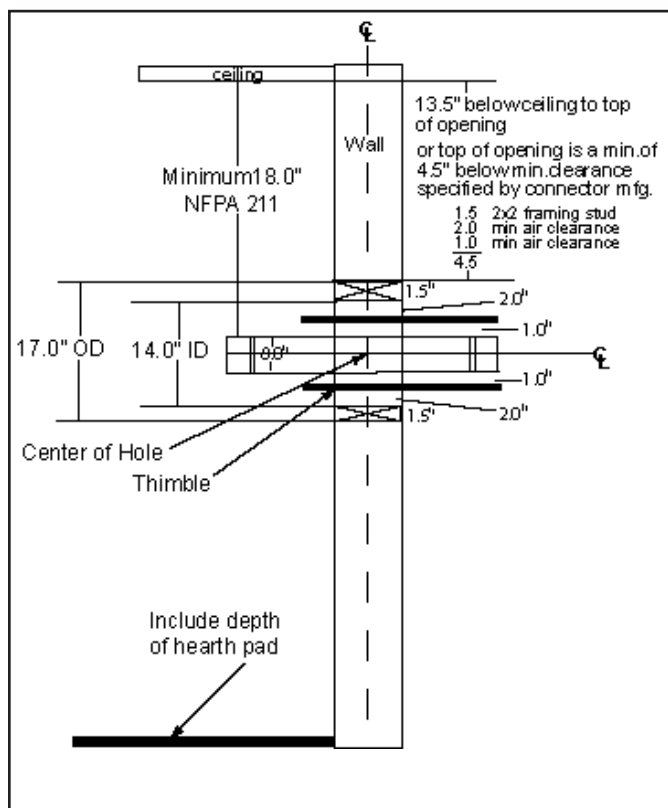

Figure 37.1 - Thimble Construction
- Top of wall opening is a minimum of 13-1/2 inches (343mm) from ceiling or 4-1/2 inches (114mm) below minimum clearance specified by chimney connector manufacturer. NFPA 211 minimum vertical clearance of 18 inches (457mm) from chimney connector and ceiling or minimum recommended by chimney connector manufacturer. **Figure 37.1.**
1. Open inside wall at proper height for the chimney connector to enter the masonry chimney. **Figure 37.1.**
3. Construct a 17 inch x 17 inch (432mm x 432mm) outside dimension frame from 2 x 2 framing lumber to fit into wall opening. Inside opening of frame should be no less than 14 inch x 14 inch (356mm x 356mm). **Figure 37.1.**